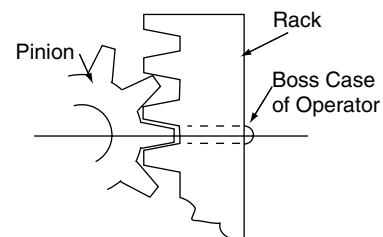

Figure 5. Rack and Pinion
- 3) With actuator in full CW (closed) position, rotate motor pinion until a pinion tooth lines up with center line of boss on actuator case (see Figure 5); slide washer and pinion on shaft. Mark this tooth for future reference.
- 5) Align actuator so that marked tooth of pinion engages with third tooth space from top of rack. Mount actuator to linkage with the actuator mounting screws (4). Apply "Locktite," Grade CV to screw threads.